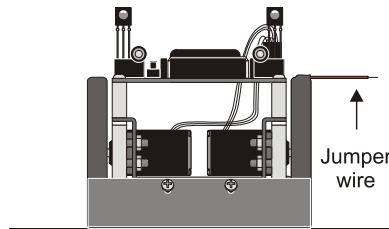

Figure 1-7
- ✓ Slip a jumper wire under one of the rubber band tires as shown in Figure 1-7. This will serve as a marker for counting wheel revolutions.